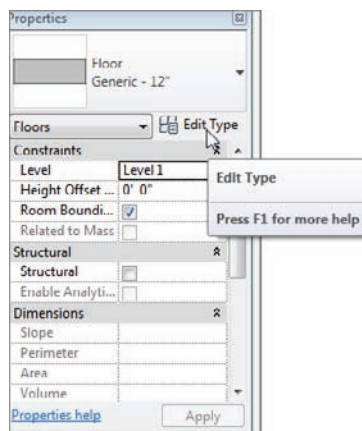

FIGURE 6.3 Clicking the Edit Type button to start creating a new floor slab type
5. At the top-right of the dialog, you will see an Edit Type button. Click it (see Figure 6.3).